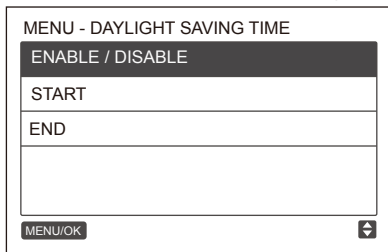

Fig. 57 — Enabling/Disabling DAYLIGHT SAVING TIME
**ENABLE OR DISABLE THE DAYLIGHT SAVING TIME FUNCTION** — Use the cursor to select **ENABLE/ DISABLE**, and press **MENU/OK**  $\leftarrow$  to enter this setting, as shown in Fig. 57.